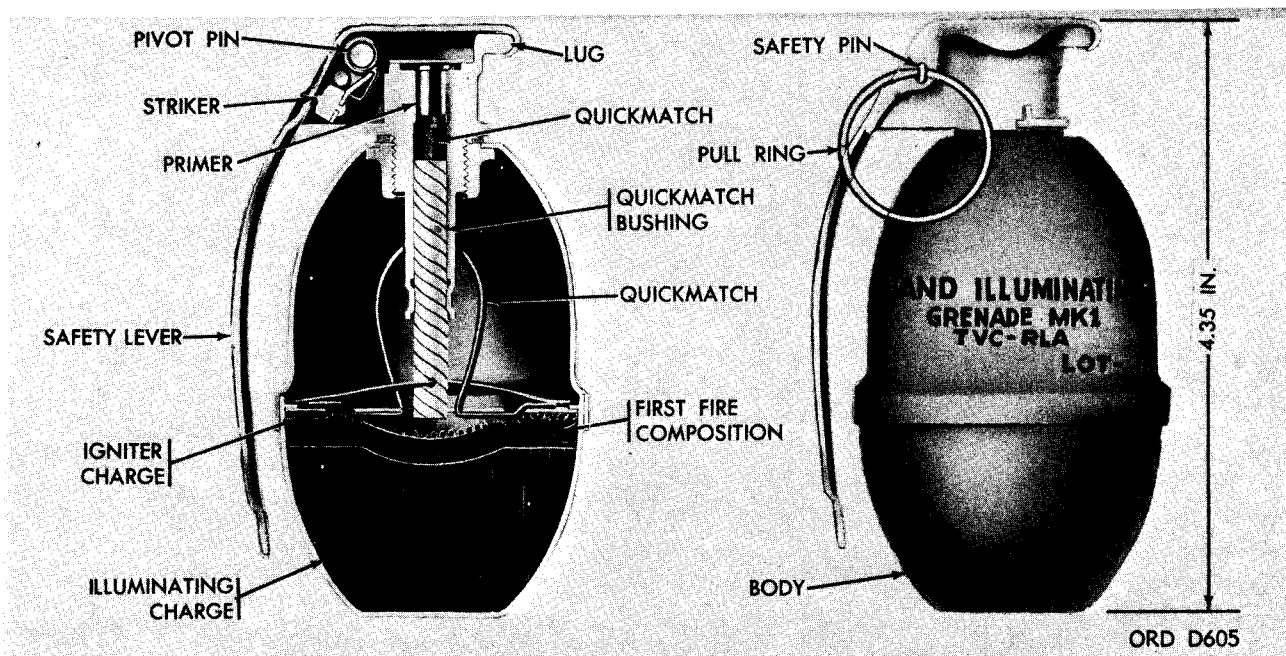

Figure 2-14. Illuminating hand grenade Mk1.
a. *General.* Hand Grenade Mk1, (fig. 2-14) is the only illuminating hand grenade authorized for issue and use. In outward appearance, the Mk1 resembles fragmentation hand grenades of the M26 series.